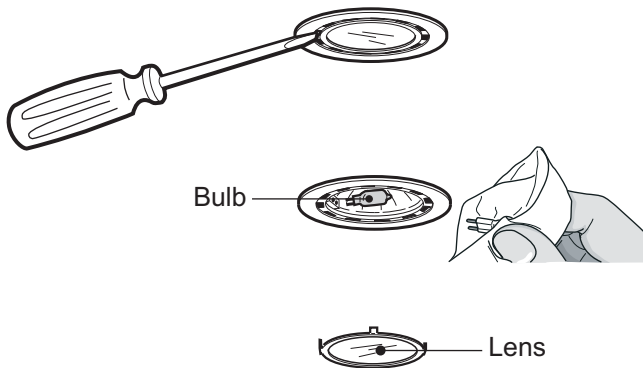

Figure 7: Halogen Light Replacement
1. Using a flat edge from a screwdriver or equivalent tool, pry loose the lens cover, as shown in *Figure 7*.